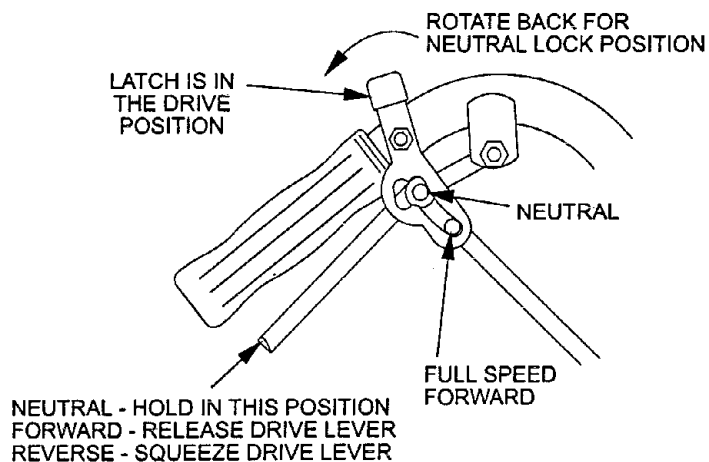

FIG. 7
4.1.3 Drive Levers: Located on each side of the upper handle assembly directly below the handle grips (See Figure 7). These levers individually control the speed and direction of each drive wheel. When the speed control lever is moved out of the neutral position and the lock latches are moved into the drive position, as shown in Figure 7, and the drive levers are released, the drive wheels are engaged in the forward direction.
4.1.4 Neutral Lock Latch: Located directly above the drive levers. These latches allow the operator to lock the drive levers in a "neutral" position where neither of the drive wheels are engaged in either a forward or reverse direction (See Figure 7).
- 4.3.4 Drive Lever/Neutral Lock Latch Operation: To lock the drive levers in neutral, squeeze the drive levers back to the neutral position (*Do Not squeeze the drive levers all the way back as this will cause the drive wheels to go into full reverse direction*). Place thumbs on the upper portion of the neutral lock latches and move them to the rear. Release drive levers (See Figure 7).